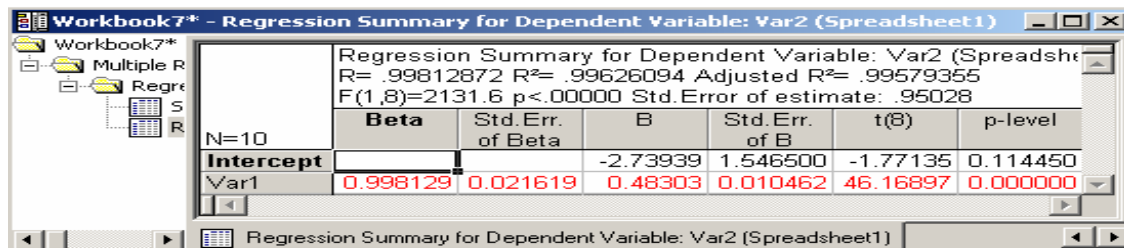

Figure 8.9 Regression Summary
5. In Advanced, click Summary: Regression results. You will get Figure 8.9
The regression parameters are given by $\hat{\beta}_0 = -2.7393$ and $\hat{\beta}_1 = 0.4830$ (See Column B of Figure 8.9).